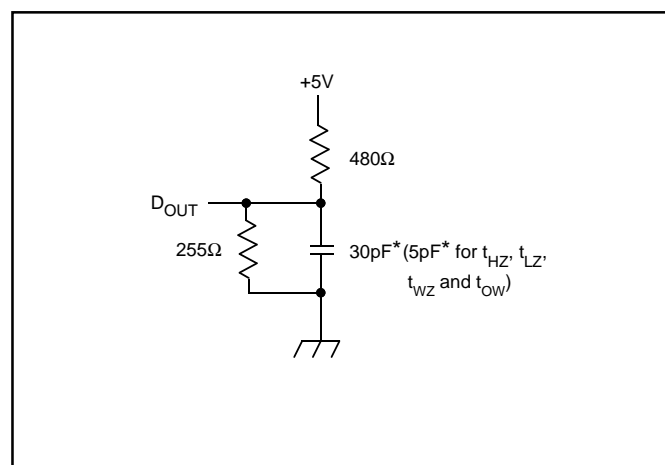

Figure 1. Output Load
7. Transition is measured $\pm 200\text{mV}$ from steady state voltage prior to change with specified loading in Figure 1. This parameter is sampled and not 100% tested.
12. Transition is measured $\pm 200\text{mV}$ from steady state voltage prior to change with specified loading in Figure 1. This parameter is sampled and not 100% tested.
Output Load	See Figures 1 and 2